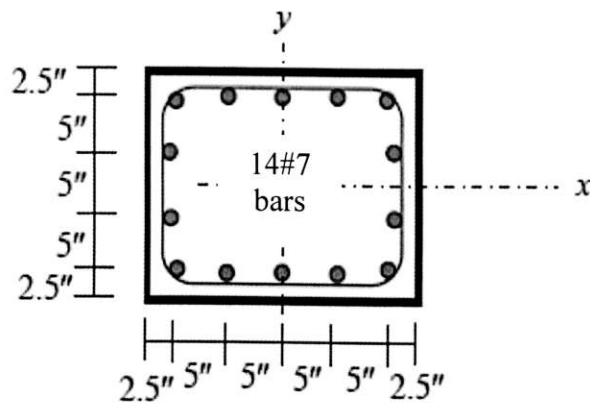

Figure: 9
12. For the tied column section shown in Figure 9, use the Working Stress Design method (WSD) method to